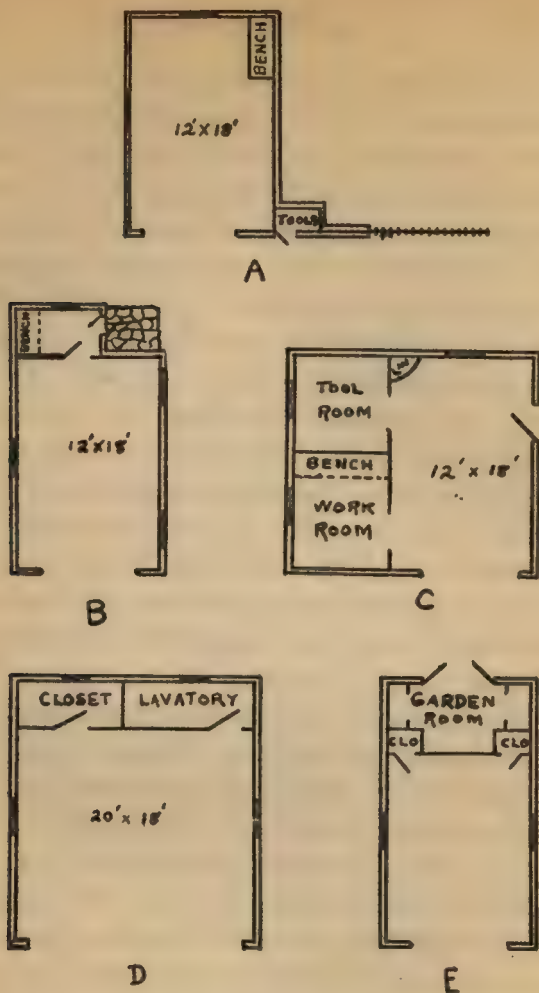

FIGURE 5. Floor plans for detached garages.
The addition of a workroom, or toolroom, helps to alter the lines of what might be otherwise a very uninteresting structure. In Figure 5 (B) we have the plan of a building that was made narrower at the back and this narrow portion served as a garden workroom. There is a door in the side of it opening on a terrace with a vine-covered pergola. This made a charming retreat at little extra expense and formed a very delightful view of the garage from the house.
Where the workroom is added at one side of the plan, it gives width to the front of the building and also may achieve distinction by changing the conformation of the roof lines. This side addition may be continued the entire length of the building, still keeping it rectangular in shape as shown in Figure 5 (C) or it may be just a small toolhouse added at the front as in Figure 5 (A), the artistic effect of which can be seen in the illustration.